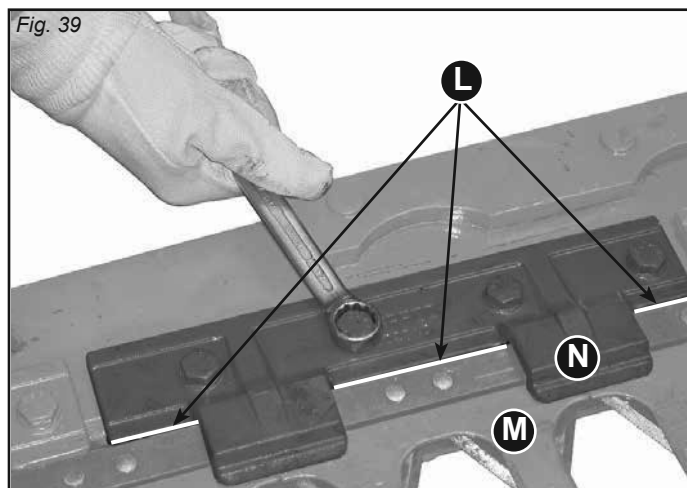

Fig. 39
Before activating the mower, one must periodically check that the blade holder rod (M, Fig. 39) and the upper blade guides (N) are coupled properly.
CAUTION: when fitting the blade guide it is important to leave a coupling tolerance of about 1 mm with the sections holder rod (L, Fig. 39).
Only with some models, before disassembling the blade guides (N, Fig. 39), one must previously remove the finger blade tie rod (Q) in Figure 43. *Use a punch to facilitate the operation (R, Fig. 43).* Subsequently, only after having made sure that the blade guides have been blocked, one must tighten the finger blade again via the nuts, located at both ends, keeping to the 15 mm shown in Figure 43. *Use a punch to facilitate the operation (R, Fig. 43).*